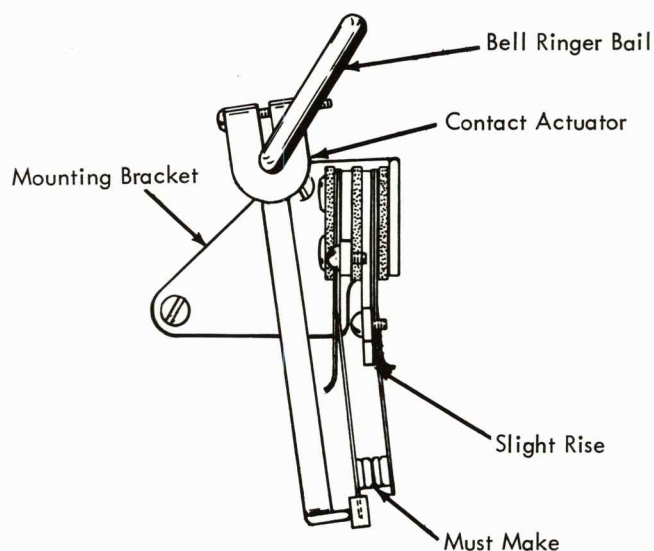

FIGURE 185. Last Column Contact
3. As the carrier moves from the next to last to last space, check for the following conditions (Fig. 185).